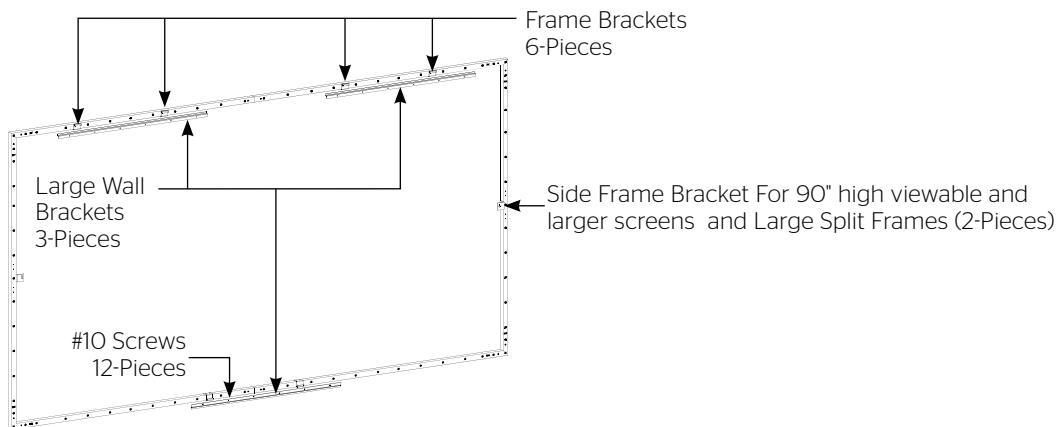

Figure 8
1. Use the supplied #10 screws to attach six frame brackets to the back of the frame as shown in Figure 8.
4. For screen 90" high viewable and over and larger screens with 2-piece side frame rails you will need to attach one side frame bracket to each side frame rail. Use the black #10 screws supplied. See Figure 8.